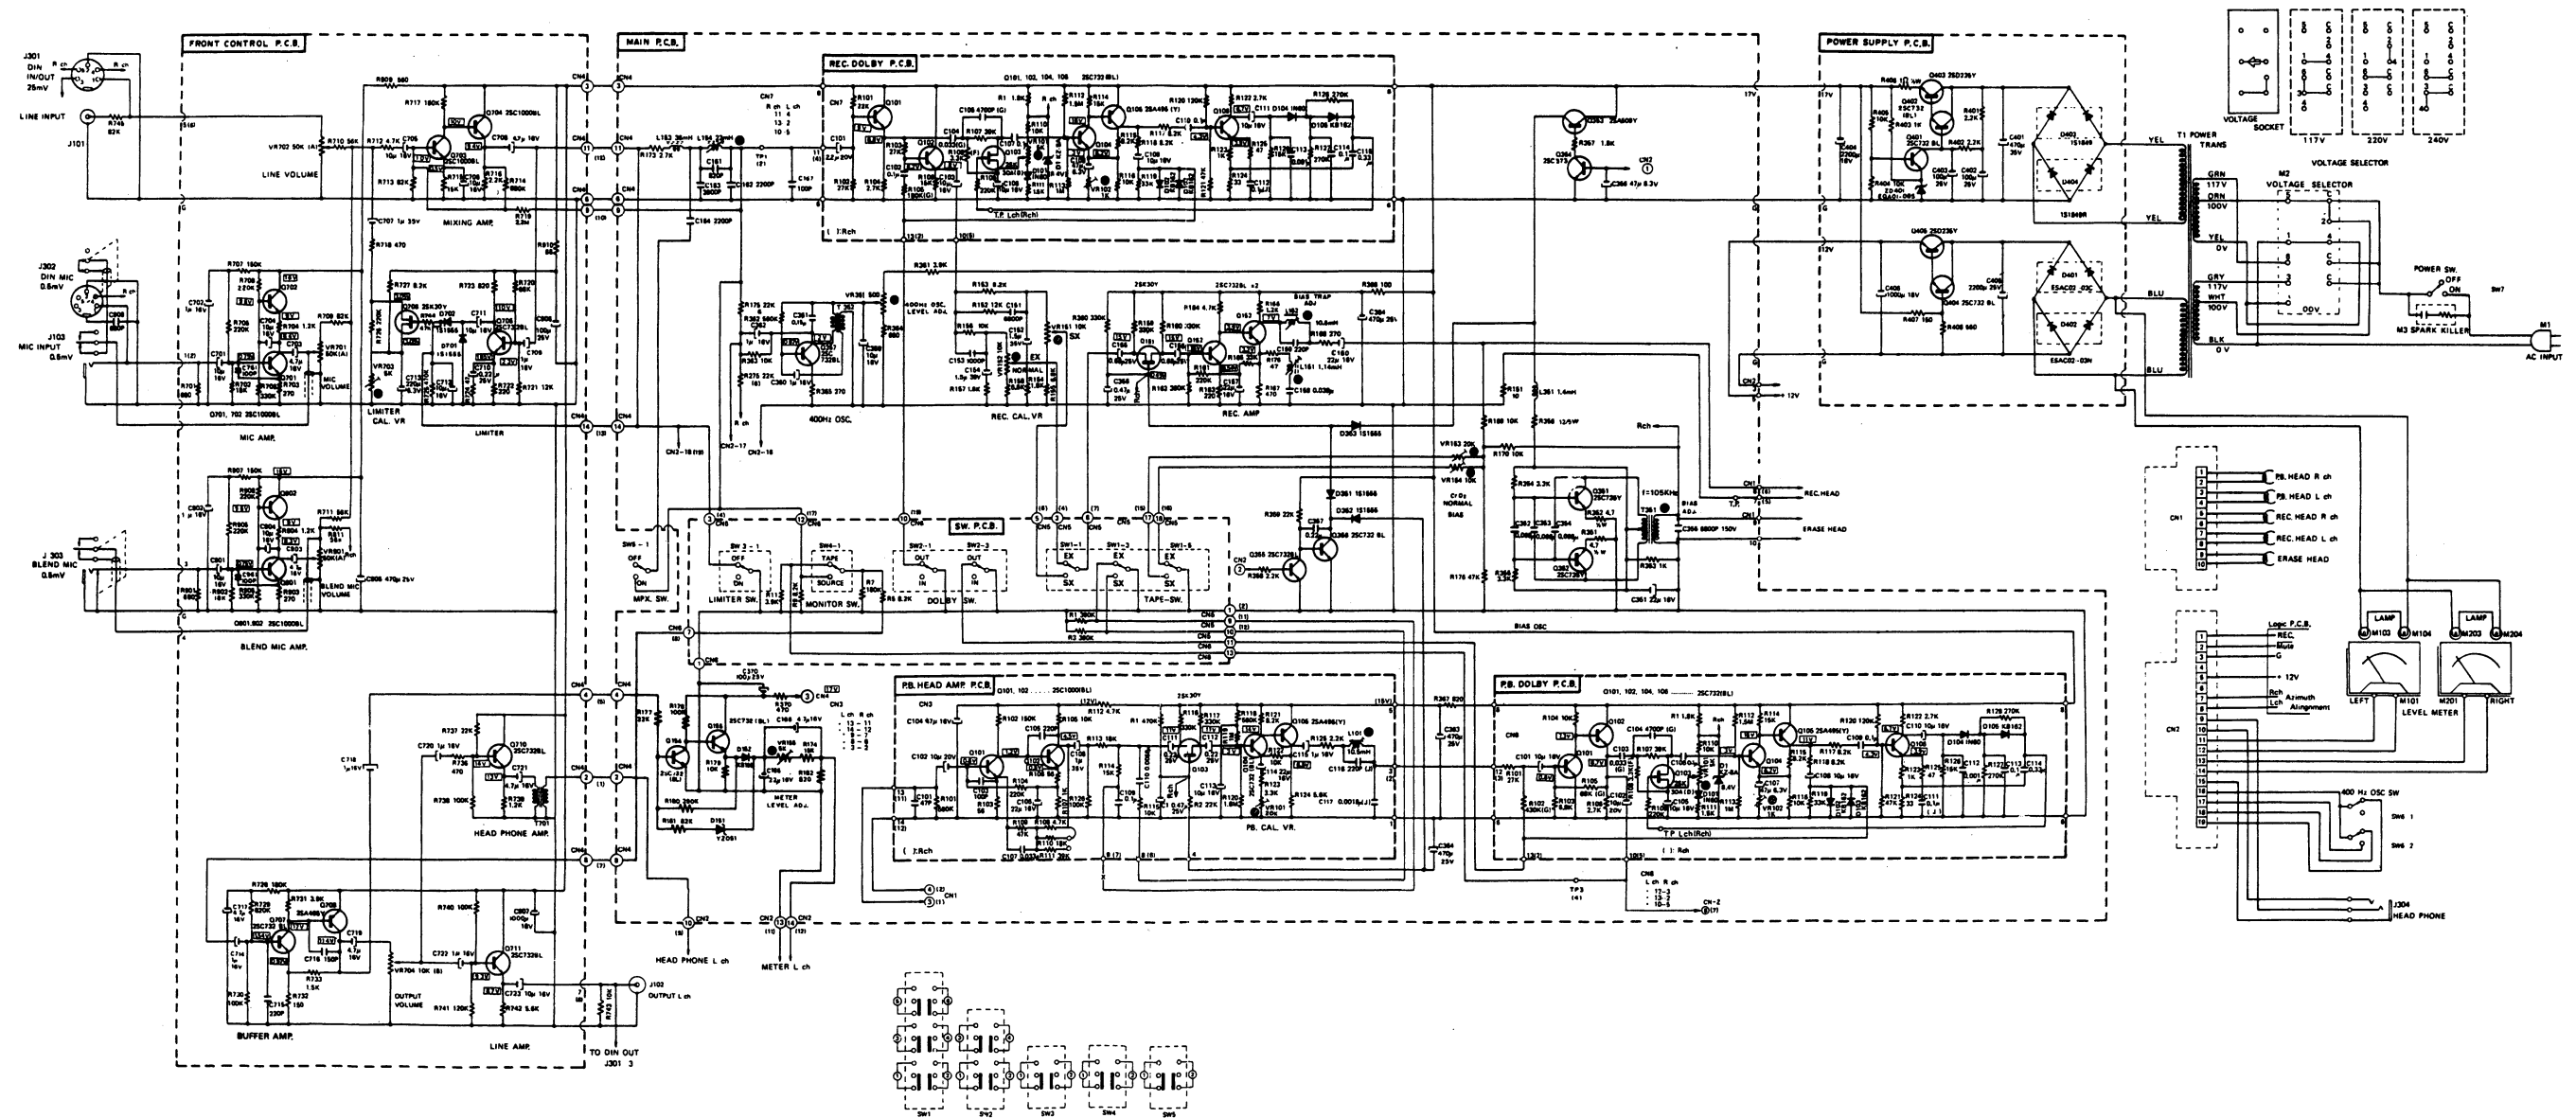

Fig. 2 Serial No. 3712701-
- (1) Load the Reference CrO2 Tape (DA09009A), set the Test Tone SW. to On position, the Tape Selector SW. to the Tape position. Set to record mode and adjust record head azimuth alignment screw D until the alignment beacon started flickering alternately.
- (2) Aligning Step (1) as above, align the screw F to obtain maximum reading of both channels.
- (3) Check to insure the following.
- b. Immerse the recorded tape into a magnetized developing solution. In turn, check to insure that the recording head tracks across the center are separated by space of 0.4 to 0.6mm typically 0.5mm as illustrated in the Fig.2.